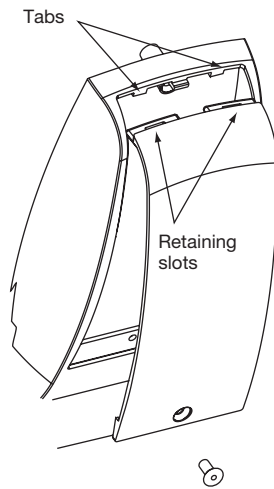

Fig. 4
4. Attach battery cover to inside escutcheon making sure to line up tabs with retaining slots in battery cover. Secure with security screw (Ref. Fig. 4).